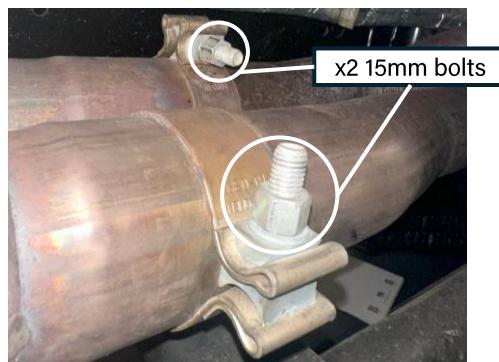

Figure 11g: Rear section resonator clamps
- Unbolt the rear section pipe clamp bolts at the resonator (Figure 11g)